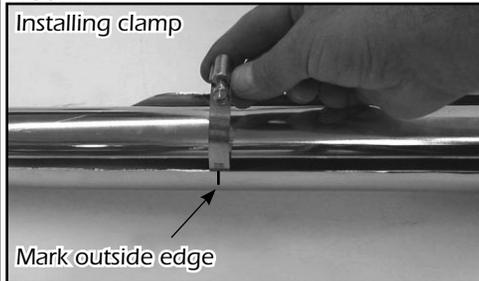

FIGURE 5
7. Carefully lay heat shields onto header assembly and loosely install the hose clamps #20 (supplied) on head pipe heat shields by feeding the tail end of the clamp into the heat shield clips (Figure 4). Take note of screw head direction (Figure 5), for adjustment purposes they must be accessible when system is installed. NOTE: Do not tighten the clamps at this time.